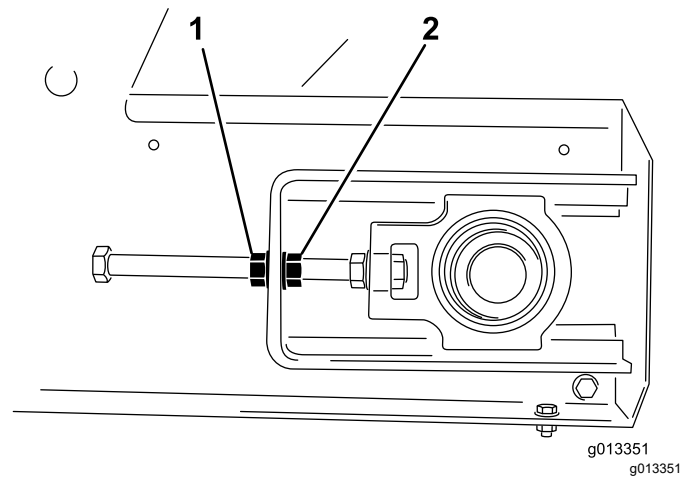

Figure 58
4. With 2 wrenches, hold the end of the tensioner rod stationary and then loosen the locking nut, which is the nut closest to the end of the rod (Figure 58).
3. On the side the belt is tracking towards, hold the end of the tensioner rod stationary, then loosen the locking nut and tighten the adjuster nut by 2 flats of the nut (Figure 58).